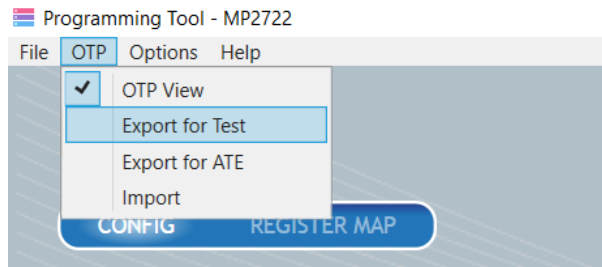

Figure 12: Click Export for Test
6. Ensure that all the parameters have been input, then click “Export for Test” in the toolbar (see Figure 12).